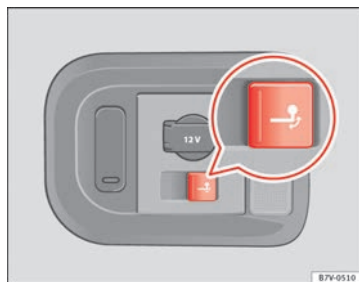

Fig. 159 Right-hand side of the luggage compartment: button to electrically release the tow hitch ball
- Press the knob briefly ⇒ Fig. 159. The tow ball is released electronically and folds out automatically; the button indicator will blink.
- Press the knob briefly ⇒ Fig. 159. The tow ball is electronically released; the indicator blinks.